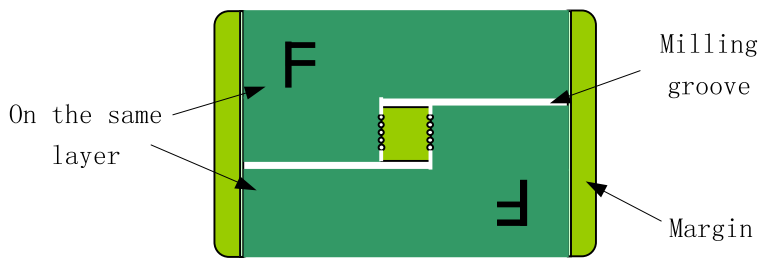

Figure 9: Two irregular boards with the excess connected via stamp holes.
- For larger pieces of excess material, the panel can be designed such that the excess pieces may be broken off using stamp hole connections. See figure 9.